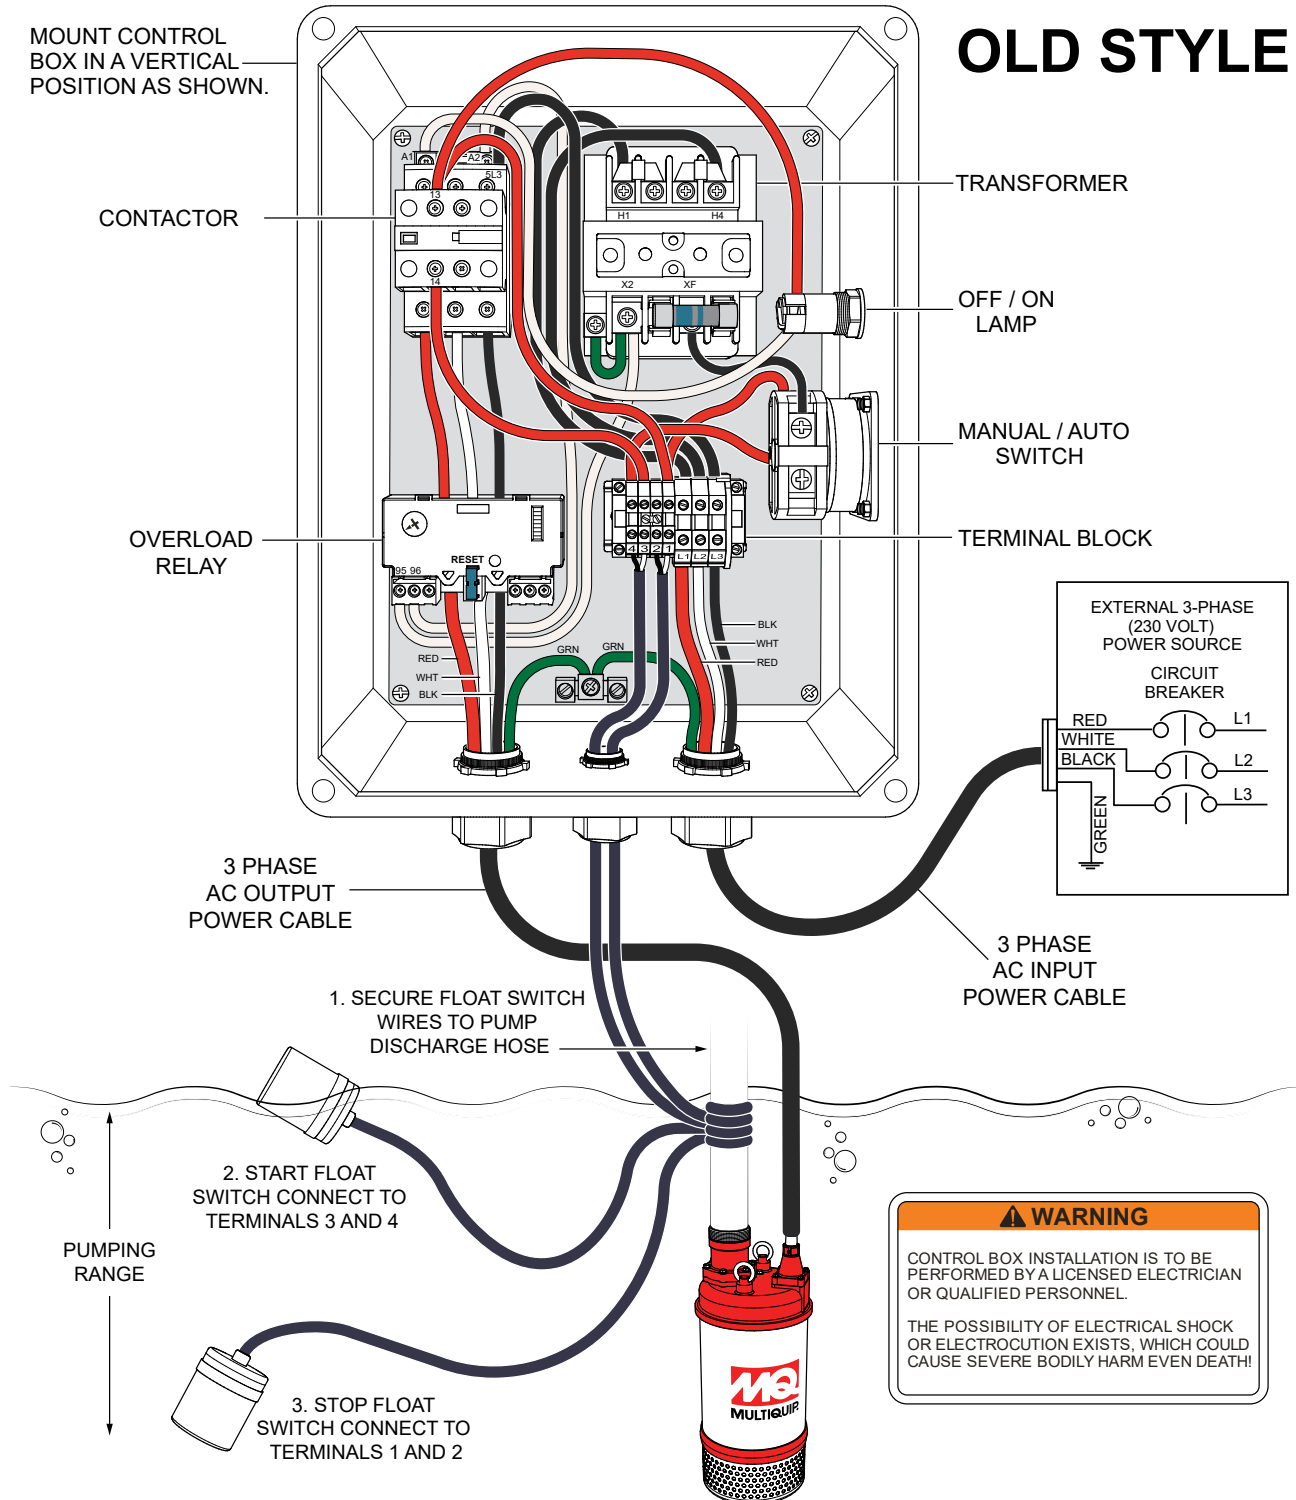

Figure 11. CB12, 3Ø-230 VAC Control Box System Diagram
1. Remove the float switch input connector housing, then route the float switch wires through the cable gland on the control box. Attach the wires of the float switch to the terminal block as indicated by Table 6 and Figure 11.
2. Remove the 3-phase AC input connector housing from the control box, then route the three phase input power cable through the cable gland on the control box. Attach the wires to the AC terminal block inside the control box as indicated by Table 7 and Figure 11.
2. Remove the 3-phase AC output power connector housing on the control box, then route the output power cable through the cable gland on the control box. Attach the wires to the AC terminals on the overload relay module (heaters load side) as indicated by Table 8 and Figure 11.